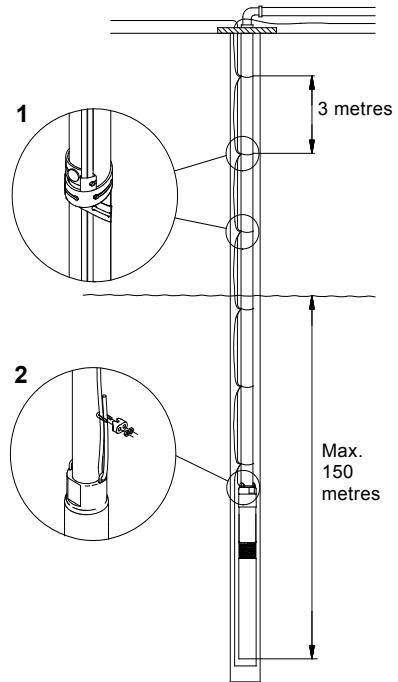

Fig. 11
Figure 11 shows a pump installation with indication of:
Cable clips must be fitted every 3 metres. See fig. 11.
Maximum installation depth below the static water level: 150 metres. See fig. 11.
It is recommended to secure the pump by an unloaded straining wire. See fig. 11, pos. 2.